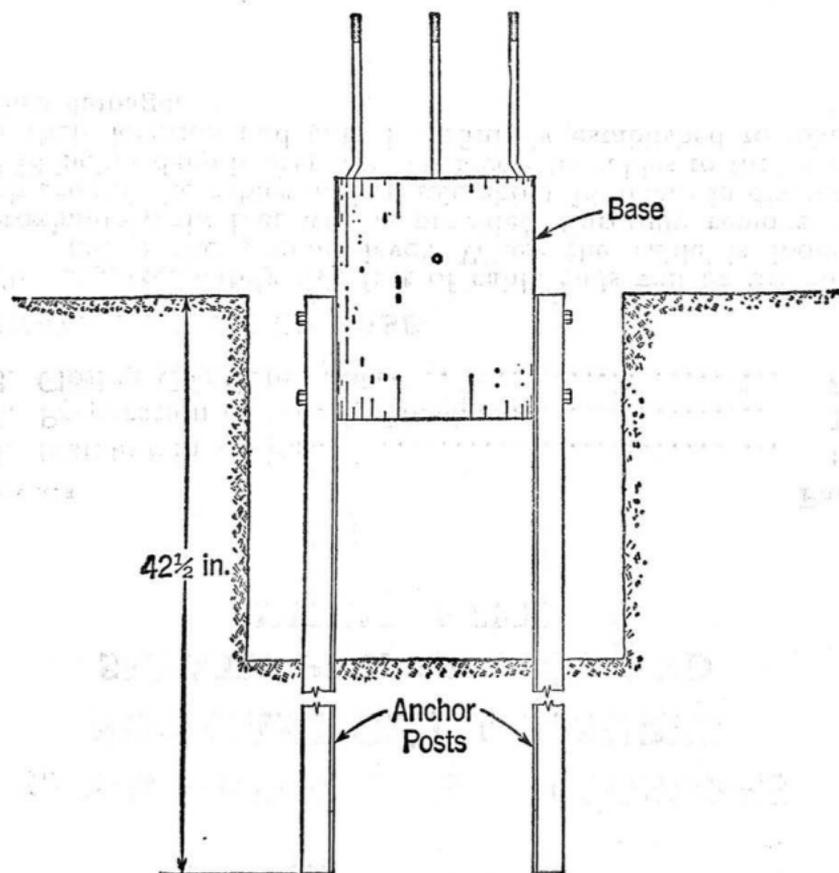

Fig. 1
1.02 Mount the anchor posts to the sides of the base with the 2" x 3/8" bolts provided. Place the posts perpendicular to the cable path centered over the hole previously dug. Insert the cable ends through the base and by tapping the ends of the anchor posts alternately with a sledge, drive them into the ground until the post tops are at ground level as illustrated in Fig. 1. If the ground is firm a block of hardwood should be used on the post tops to prevent them from being damaged. It may be necessary to remove the base and drive the anchor posts into the ground separately. The posts should be driven carefully in the final stages so that when the cover is placed, it will be in a straight, vertical position.